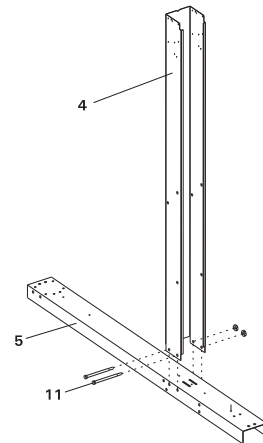

Fig. 8
B) Now take the straight side 4"x4" Upright and push it down over the strap end channel where those slots are located. Position the open end of the straight side upright to face the short end of the channel (the inside of the pool) as shown in Fig.8. The two holes on each side of the upright should line up with two of the holes on each side of the strap end channel. Secure the parts with two 5/16" x 4 1/2" bolts and two 5/16" nuts. Repeat for all assemblies.